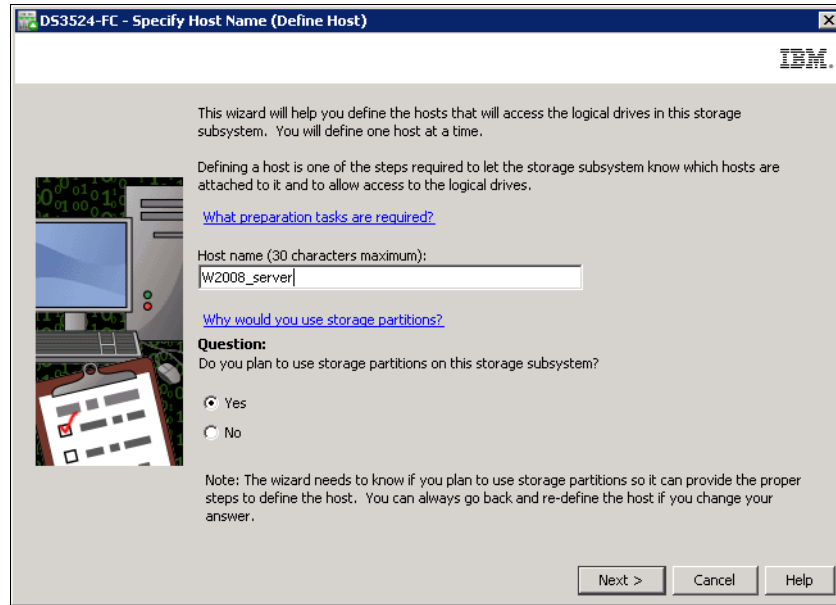

Figure 11-4 Define Host wizard: specify Host name
2. The first window of the wizard is an introduction. In the next window (Figure 11-4 on page 279) you are asked to assign a **Host name** to the host being defined, and whether you plan to use storage partitioning.